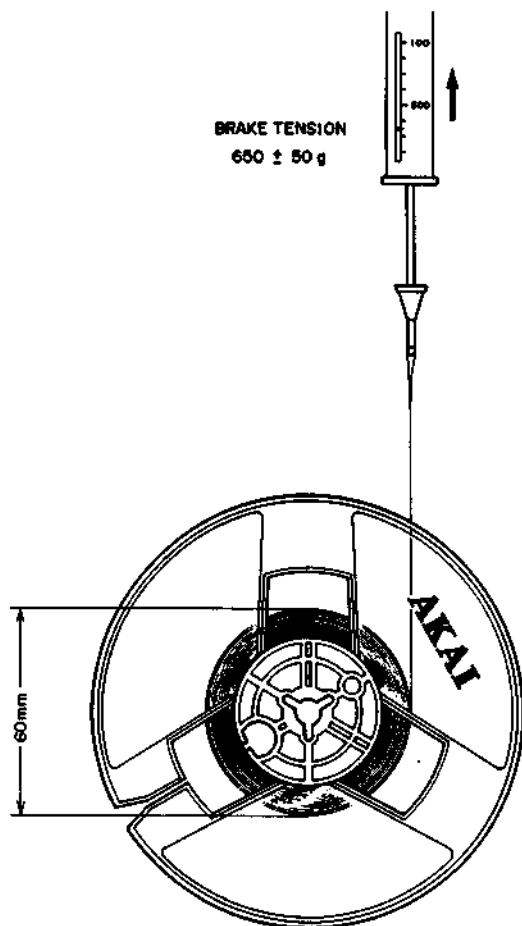

Fig. 9
1) As shown in Fig. 9, brake tension is measured with a spring gauge using a 60 mm diameter tape wound on a 5" reel. Ideal brake tension is  $650 \pm 50$  gr. and left/right deviation allowance should be within 50 gr.